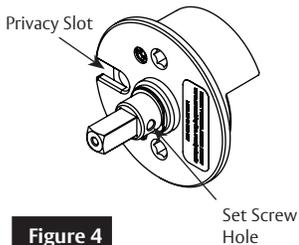

Figure 4
- a. If lever set screw does not align with the threaded hole in the spring housing assembly, remove spindle and rotate the hub 180 degrees. Ensure the set screw orientation in the hub is opposite the privacy slot in the housing, see Figure 4.